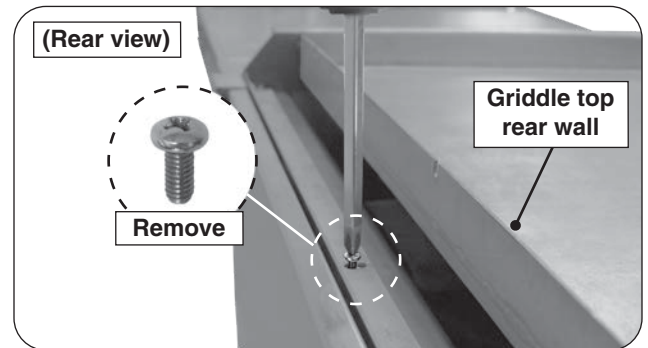

Fig. 27-2 Rear screw removal
2. Locate the screw found on rear of the griddle top and remove (see Fig. 27-2).